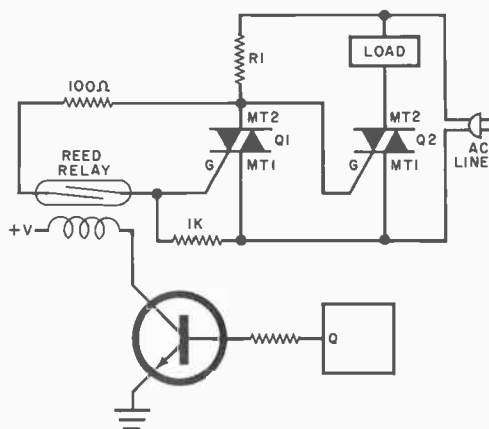

Fig. 11. Using output bit to turn on a triac eliminates RFI during switching operation.
**Control Circuits.** If a processor is to perform some useful work, it may have to control large amounts of power. Since its output may be the relatively low current of a flip-flop, some means must be found of controlling higher power. One method is to insert a relay as shown in Fig. 10. The use of Darlington transistors can be extended so that very high-power relays can be controlled. A power semiconductor such as an SCR or triac can be used instead of the relay. The circuit shown in Fig. 11 applies power to the load only at power-line zero crossings to eliminate r-f interference and line transients.
In Fig. 11, when Q1 is turned on by the reed relay, there is no gate drive for Q2. When Q1 is off, the gate drive for Q2 is through R1. Note also that R1 should be capable of handling the full line power while passing adequate current to trigger Q2.